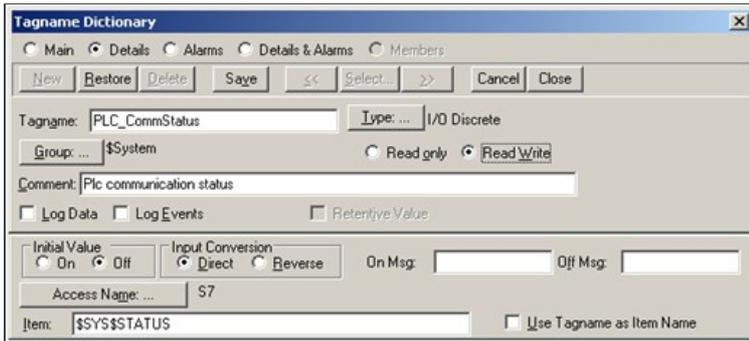

Figure 6: PLC_CommStatus Tag Definition
2. Click Validate and configure PLC_CommStatus as an IO Discrete tag with the settings shown in Figure 6 (below):